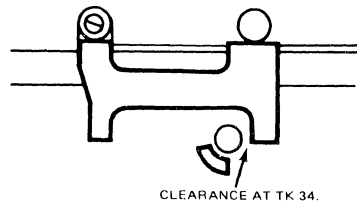

FIGURE 7. CARRIAGE LIMITER CLEARANCE
- d. Step to track 34 and insure there is clearance between the cam stop extension and the stepper motor shaft. Reference figure 7.